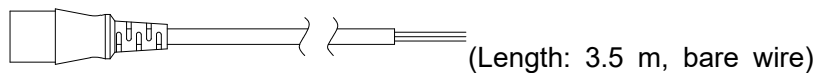

Fig. 6-8 AC power cord 200 V
6. When using 110 to 200 VAC power supply, use an optional AC power cord 200 V (Fig. 6-8: 0311-5112).